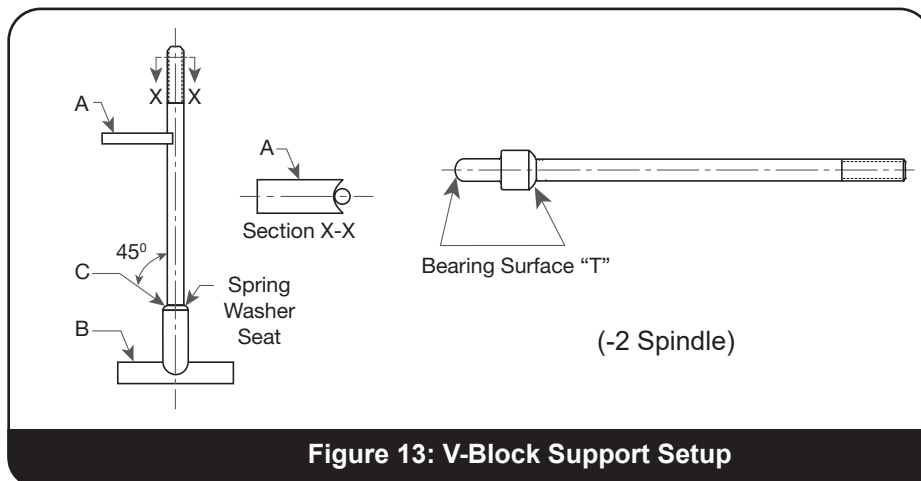

Figure 13: V-Block Support Setup
a. The ball-pointed spindles should be placed in a piece of material, "B" that has been recessed to permit free rotation of the spindle (see Figure 13).
- The stem is bent (see Figure 13).